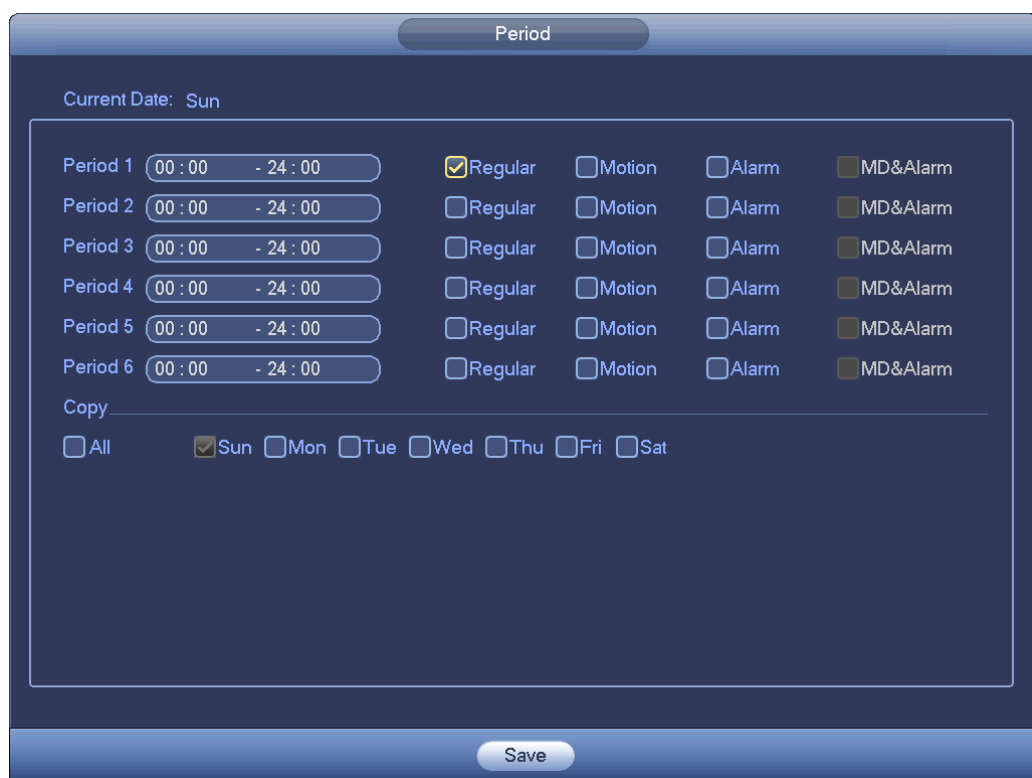

Figure 4-24
- Period setup: Click button  after one date or a holiday, you can see an interface shown as in Figure 4-24. There are four record types: regular, motion detection (MD), Alarm, MD & alarm.